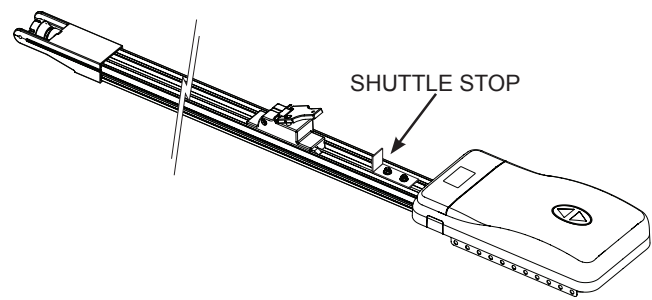

Fig. 7
- 1 Locate shuttle stop just in front of power head and secure the bolts as per Fig. 7